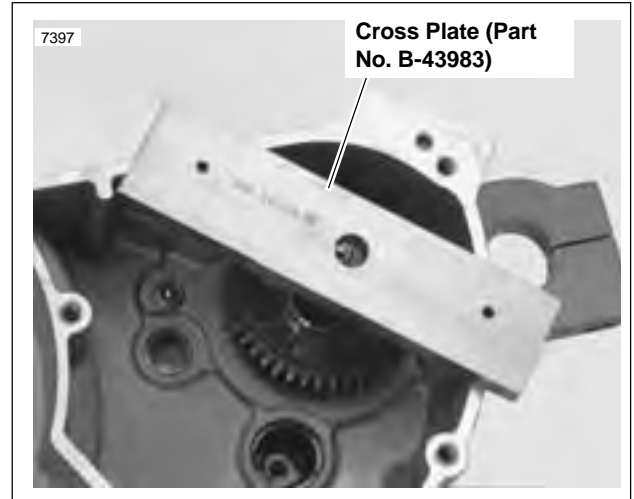

Figure 6-46. Cross Plate Mounting
5. See Figure 6-46. Place crossplate on crankcase as shown.